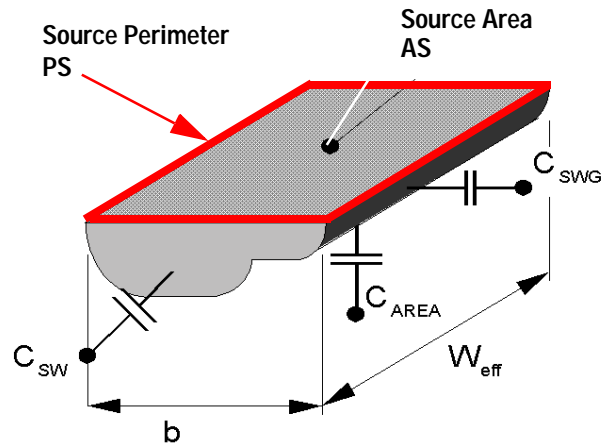

Figure 22 Device geometries
For each line, you can change the predefined name for the DUT and enter necessary geometrical data. For your convenience, only relevant data should be entered for a specific group of capacities. Relevant data fields are shown with white background and can be edited. Gray shaded data fields are not editable. For example, DUTs to measure bulk-drain junction capacitances do not require gate length and width (L, W), source area (AS) and perimeter length of source (PS) geometrical data. You only have to provide drain area (AD) and drain perimeter (PD) as well as the number of device fingers (NF) of the transistor to be measured. See Figure 22 for some details on capacitances and geometries.
- You can enter a comment for each DUT. If you are using a switch matrix, you can enter a module name as well as the pin numbers of the switch matrix pin connections to the transistor. Only relevant connections should be entered. In the case of the bulk-drain diode, no source connection should be entered (the appropriate field shows a dashed line). See Figure 22 on page 60 for details on device geometries and Table 68 on page 430 for requirements on a proper extraction of diode data.